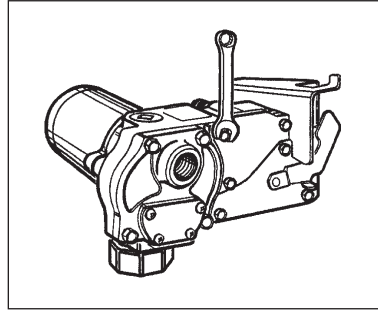

Figure 2
- Remove the electrical coverplate. (Figure 2) Be careful not to damage gasket.